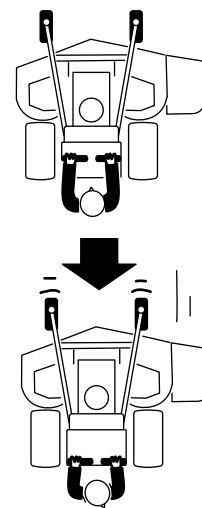

Figure 16
2. Slowly pull the motion-control levers rearward (Figure 16).